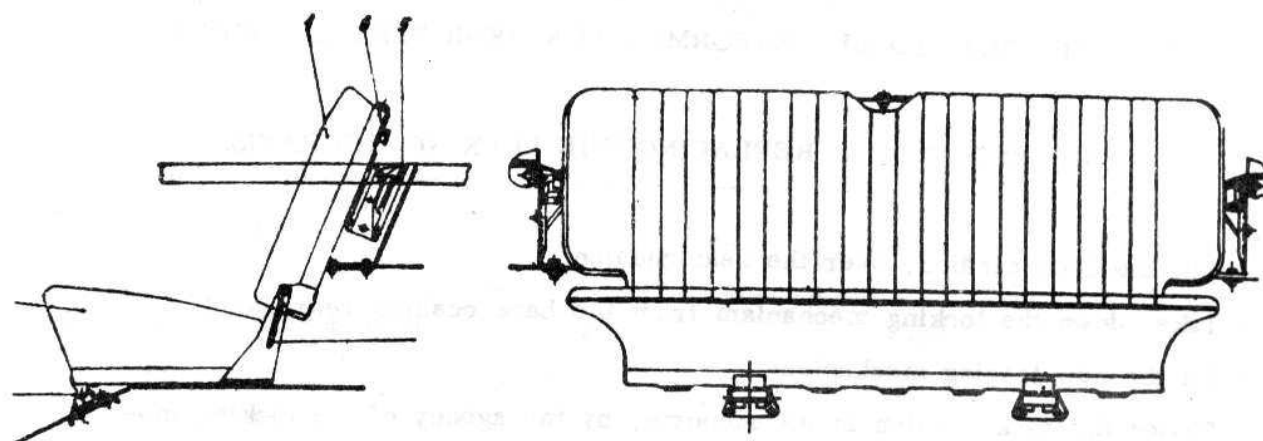

Fig. 4. 171.
The cross cushion rear seat equips the ARO 241 and 244 vehicles. (see Fig. 4. 171)
Its dismantling can be quickly carried out, its back cushion being fastened on supports by the agency of a locking mechanism (6) (see Fig. 4. 171), while its fastening on the floor pane is secured by two supports